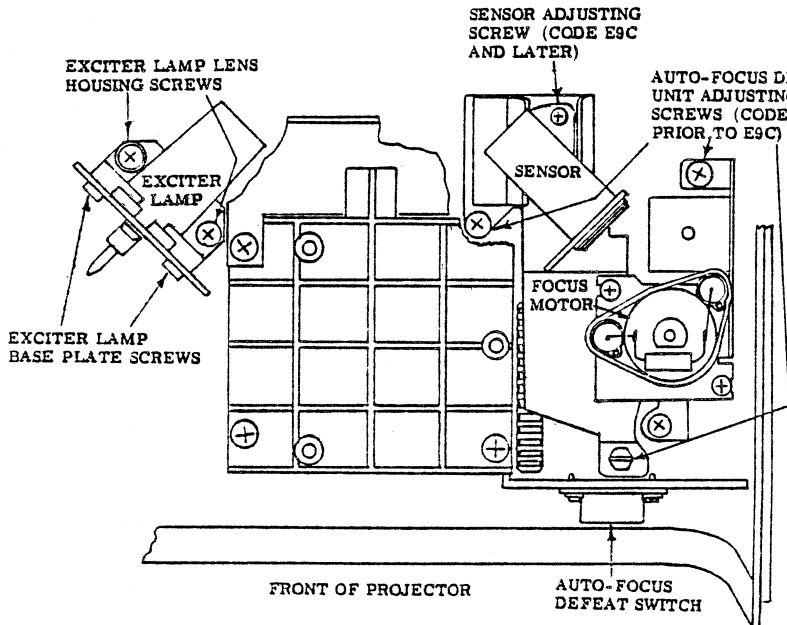

Figure 3. Exciter Lamp Housing
- a. Loosen the two small screws which hold the exciter lamp in the lens housing. (Figure 3)
- (5) If all the requirements of this step are met, skip step e and proceed directly to step f.
- e. Adjust the Auto-Focus Sensor until the requirements of step d are satisfied. (Figure 3)
- (1) For production codes starting E9C - The Sensor Lensmount Assembly is movable. Loosen the screw in the slotted hole of the Sensor Lensmount which holds it to the base. (This screw is accessible with a #0 phillips screwdriver below the back edge of the P/C board.) Swing the Sensor Lensmount Assembly to the point where the requirements of step d are satisfied.
- (2) For production codes prior to E9C - It is necessary to move the complete Auto-Focus Drive Unit. Remove the P/C board mounting screws and lift the board but DO NOT disconnect any of the plugs. Slightly loosen the three Drive Unit mounting screws and move the entire assembly within the screw hole limits until the requirements of step d are satisfied. Reassemble the P/C board.